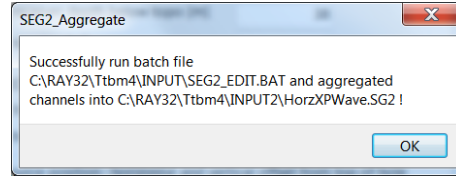

Fig. 6 : prompt shown after click on Aggregate SEG-2 files button. Click OK to dismiss prompt.
- click button **Aggregate SEG-2 files**. Confirm prompts **Successfully run batch file** (Fig. 6).